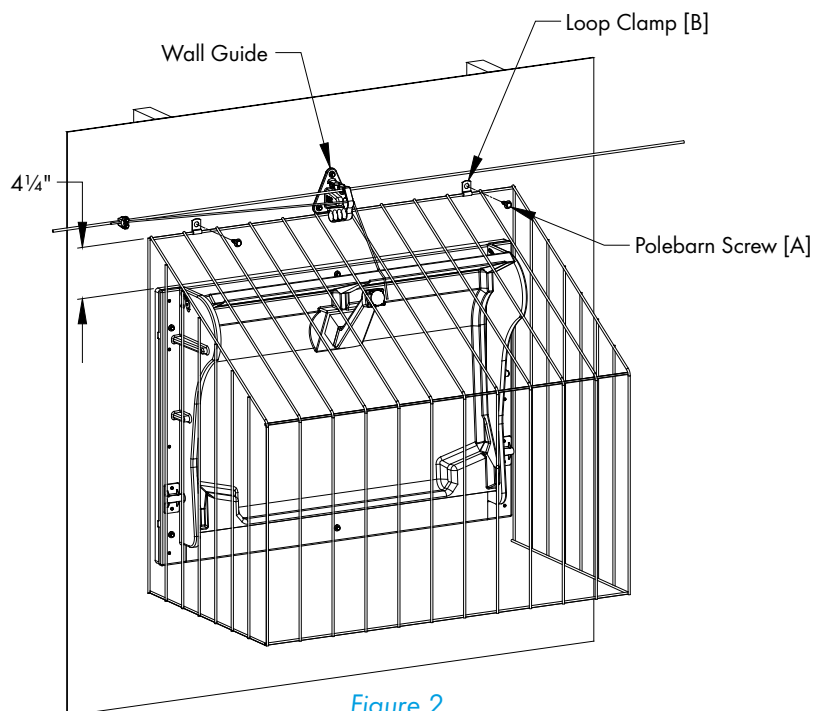

Figure 2
In 2 places on the top wire of the Bird Guard, one position in from the left and one position in from the right, slide a Loop Clamp [B] over the top wire. The Loop Clamps [B] must be positioned so that the screws for clamps are mounted in frame member. The horizontal placement of the clamps may be adjusted as necessary. Place the Bird Guard over the inlet and hold it up $4\frac{1}{4}$ " above the top of the inlet and secure in place using (2) Polebarn Screws [A] through the Loop Clamps [B]. *See Figure 2.*